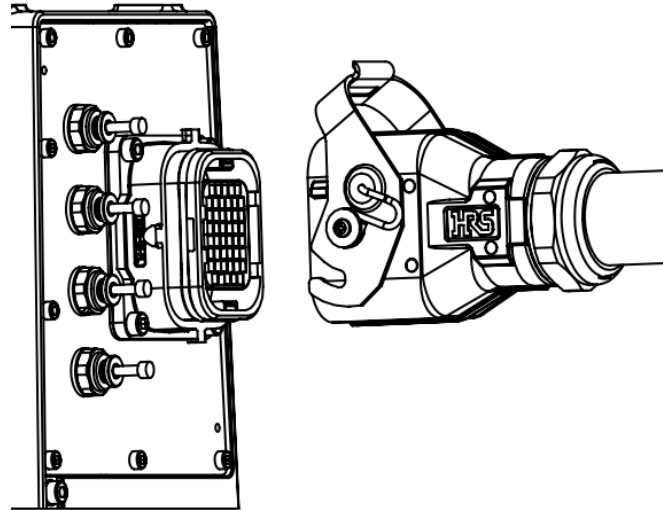

Figure 5-3 Connection interface for the manipulator's heavy-duty line
Step1. Connect the manipulator, insert one end of the heavy-duty wire plug into the manipulator's heavy-duty wire connection port (see Figure 5-3), and tighten the locking buckle.